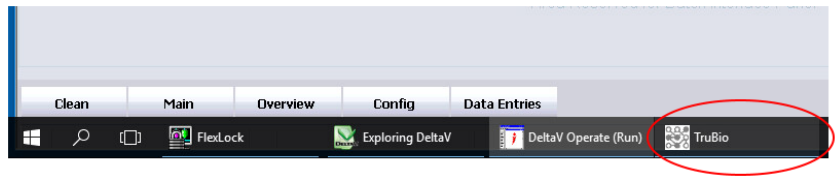

Figure C.10. TruBio icon on Windows taskbar.
1. From any screen, click the **TruBio** icon from the Windows taskbar at the bottom of the screen (Figure C.10).